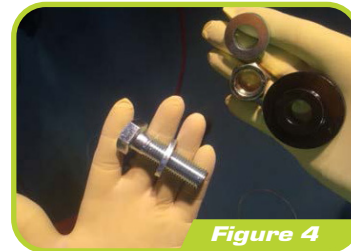

Figure 4
5. Install standard round black spare behind existing tow point hole, and fit the bolt & washer to suit (see Figure 4,5).